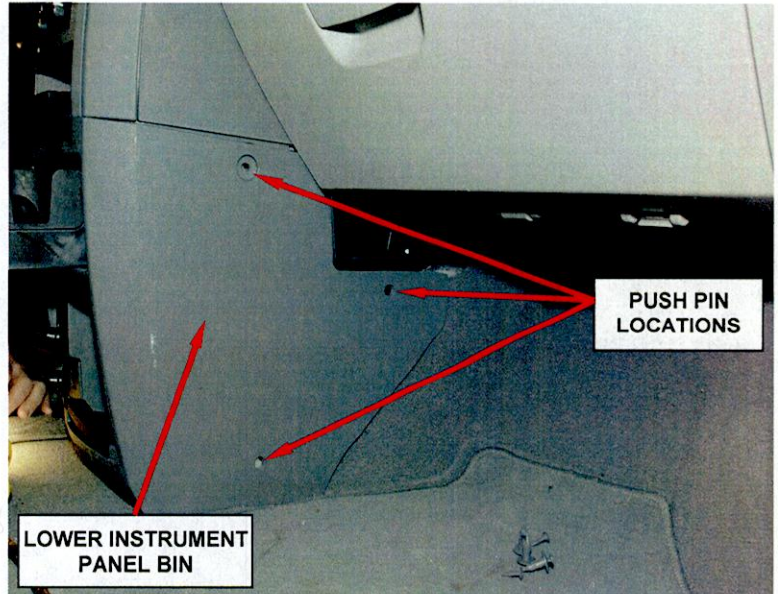

Figure 1 – Remove Six Push Pins (Right Side Shown)
3. Remove the lower instrument panel bin retaining push pins (three on each side) (Figure 1).